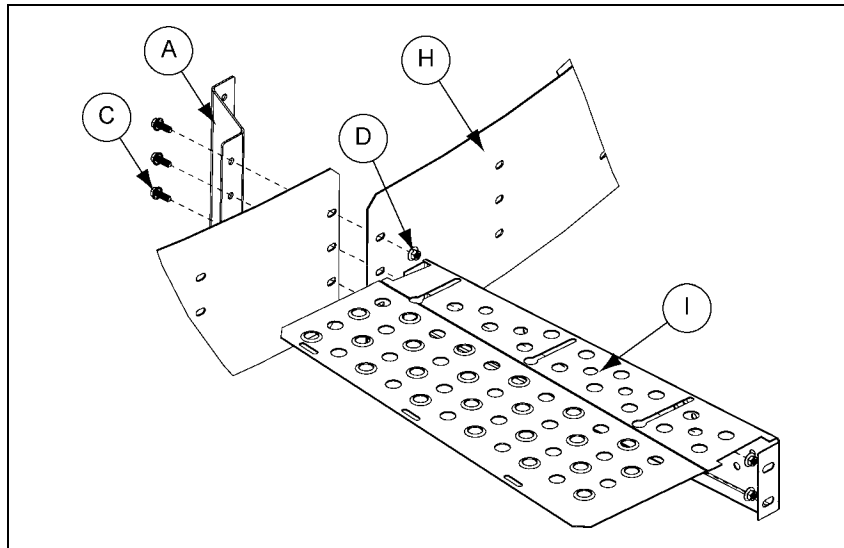

Figure 5C
2. Install the inner toe board (H) and planks (I) to the wall brackets (A) using bolt (C) and nut (D). (See Figure 5C.)